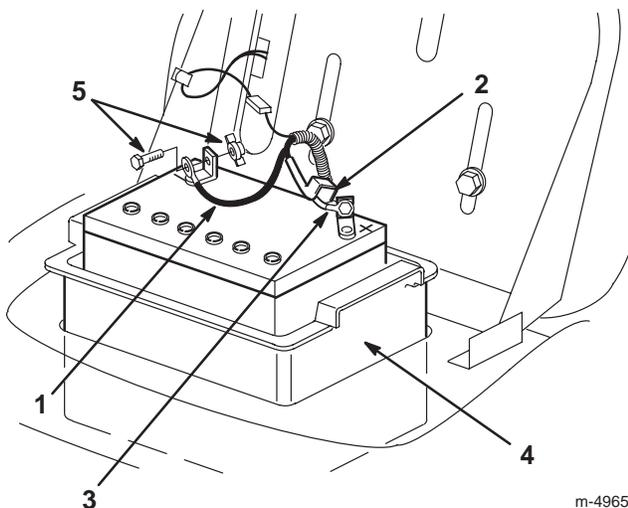

Figure 25
- Disconnect the negative (black) ground cable from the battery post (Fig. 25).
- Slide the rubber cover up the positive (red) cable. Disconnect the positive (red) cable from the battery post (Fig. 25).
- Remove the battery box and battery from the chassis (Fig. 25).
- Put the battery into the battery box and install it into the chassis (Fig. 25).
- Using the bolt and wing nut, connect the positive (red) cable to the positive (+) battery post (Fig. 25). Slide the rubber cover over the battery post.
- Using the bolt and wing nut, connect the negative (black) cable to the negative (-) battery post (Fig. 25).